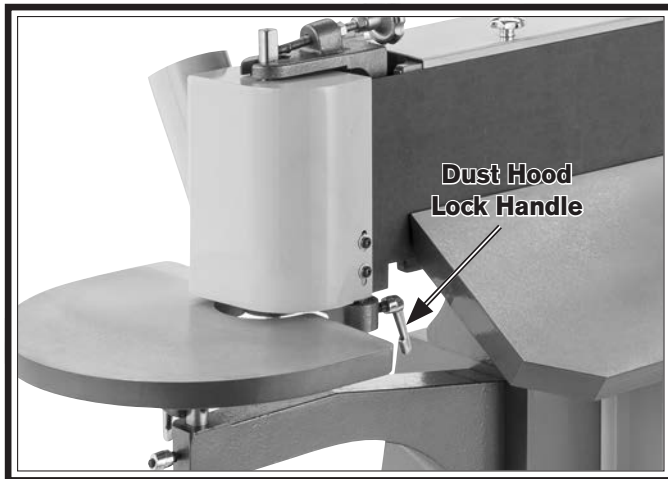

Figure 29. Location of dust hood lock handle.
- Loosen dust hood lock handle to open end table dust hood (see **Figure 29**).